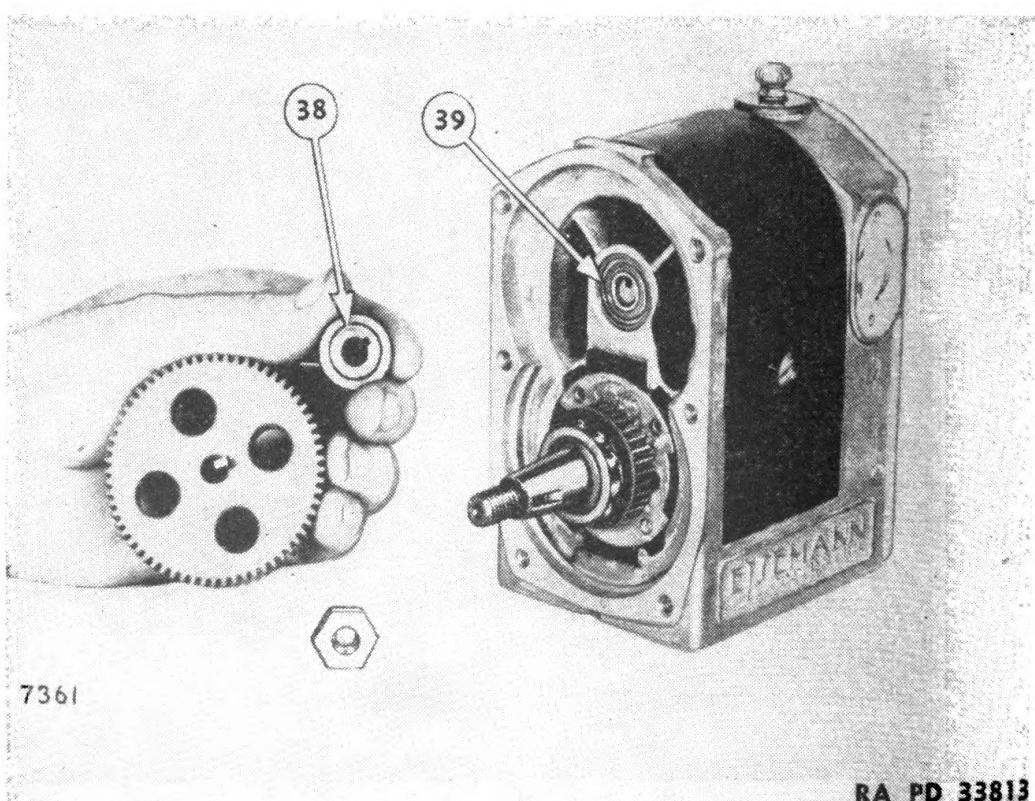

FIGURE 97.—Distributor gear removal.
e. The shaft will now slide out of the magneto. The spacer (38) (fig. 97) is used to locate properly distributor gear bearing (39). If damaged, this bearing should be tapped out and replaced with drift (19984).